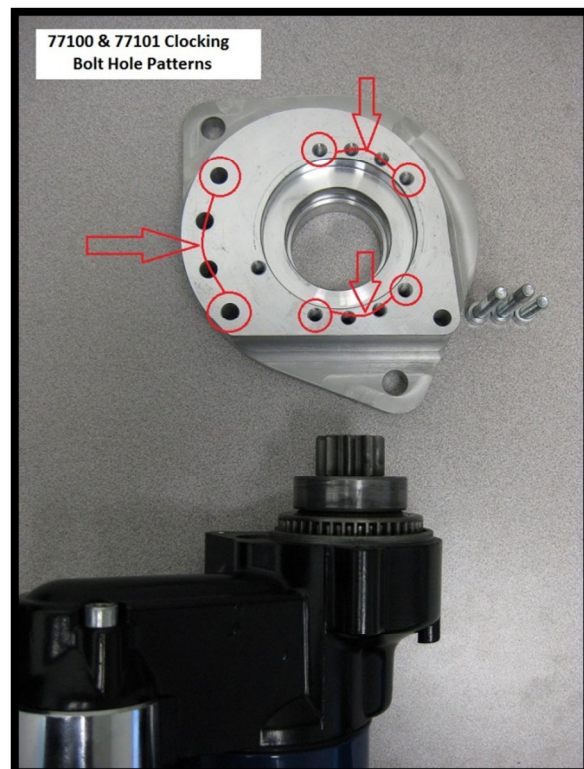

Figure 3: Starter Clocking Positions
STEP 4. With the starter now in position, make sure the solenoid housing has maximum clearance from heat sources and other components. The starter can be clocked in four different locations on the mounting block to obtain the best position. To re-clock the starter, first remove the starter, then remove the three M6 x 1 mounting bolts between the starter and the mounting block and re-position accordingly. Re-Torque to 8 ft-lbs. Please see Figure 3.